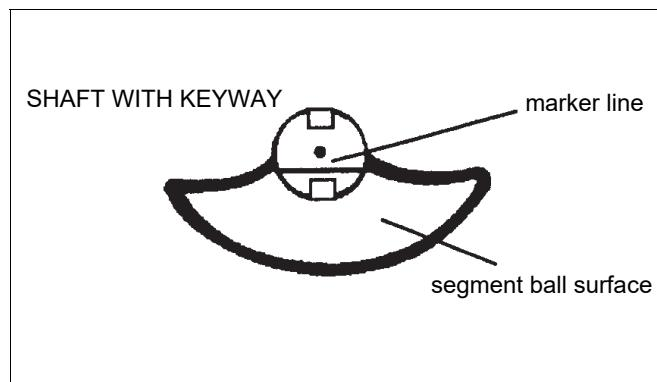

Fig. 25 Segment and shaft position
- Use a plastic spindle to ensure that the seat is correctly placed and can move freely, Fig. 25.
- Install the drive shaft (11). Note the location of the pin hole and the keyway. See Fig. 25.